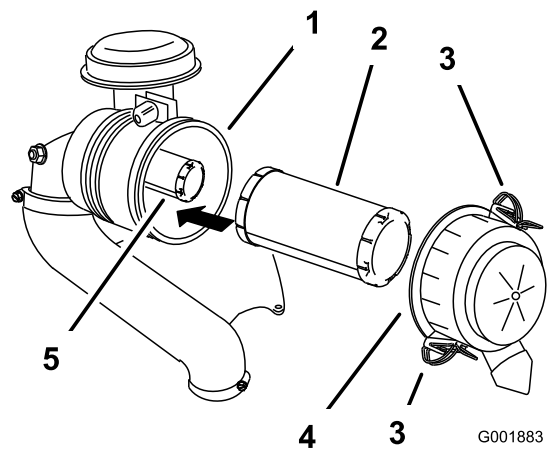

Figure 54
5. Gently slide the primary filter out of the air-cleaner body (Figure 54).
3. Release the latches on the air cleaner and pull the air-cleaner cover off the air-cleaner body (Figure 54).
2. If you are replacing the inner filter, carefully slide it into the filter body (Figure 54).
- Carefully slide the primary filter over the safety filter (Figure 54).
- Install the air-cleaner cover and secure the latches (Figure 54).